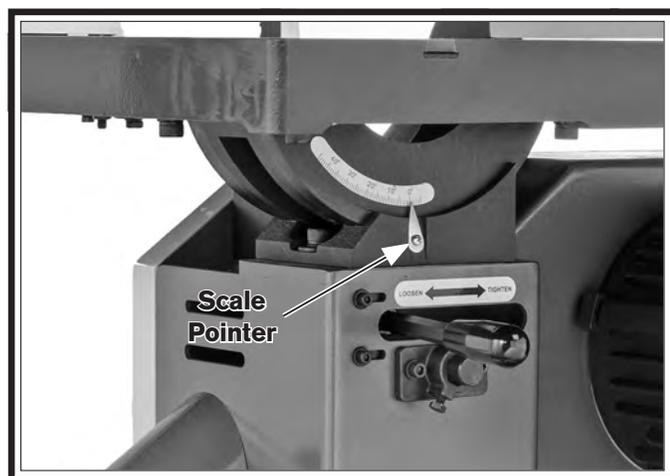

Figure 66. Table tilt scale pointer.
- Loosen screw on table tilt scale pointer, but do not remove it (see **Figure 66**).